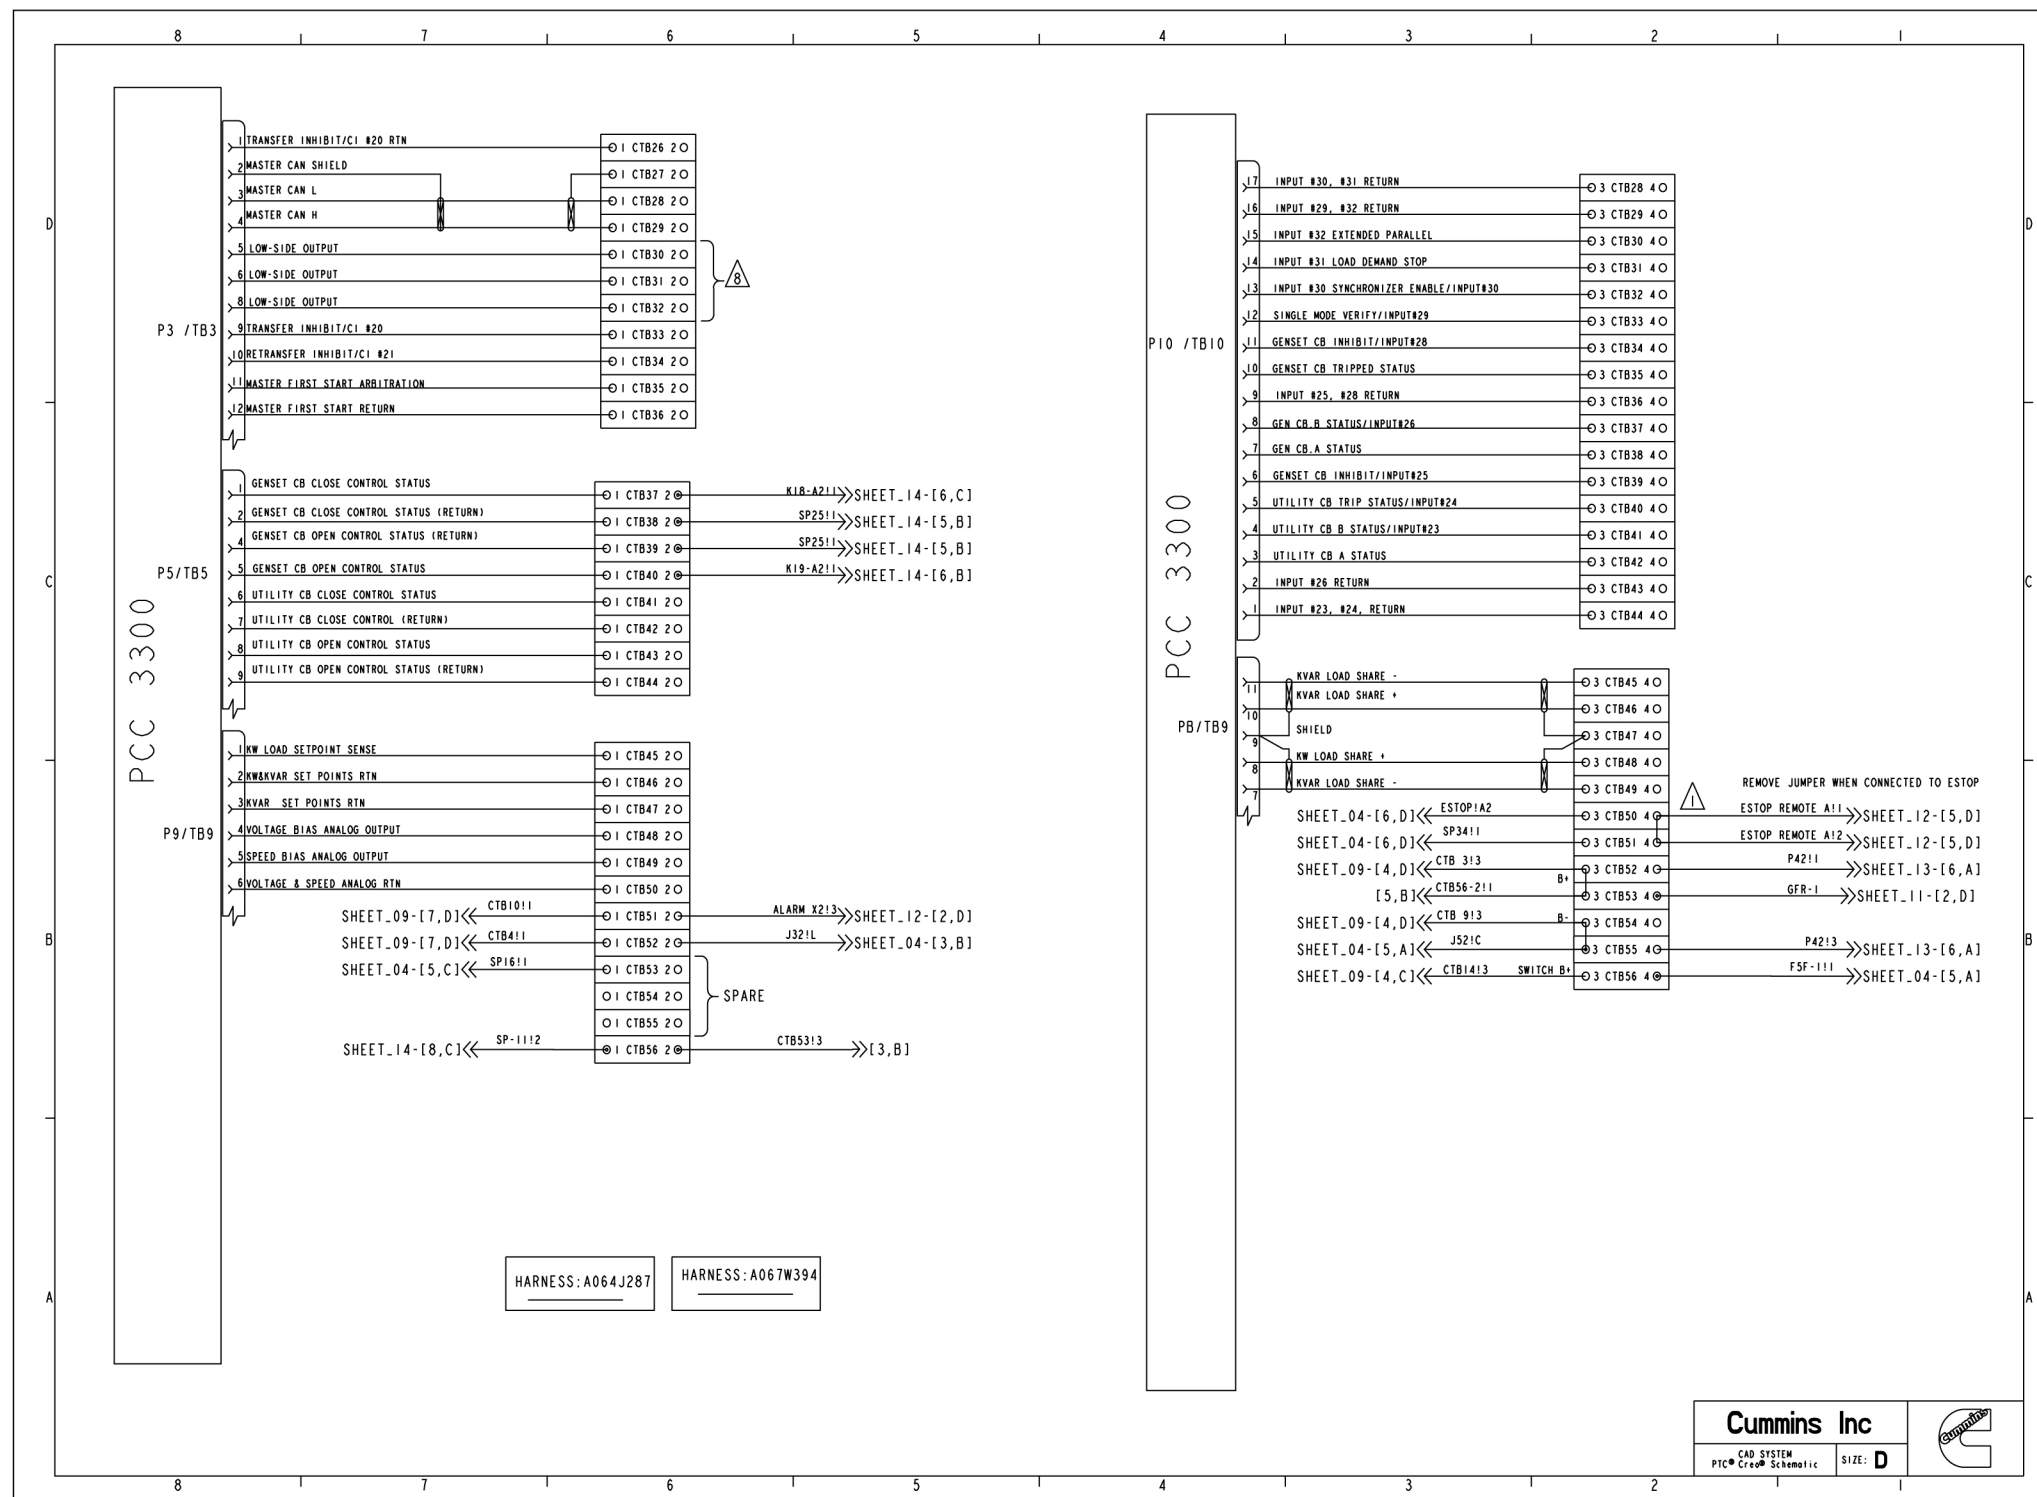

FIGURE 94. WIRING SCHEMATIC (SHEET 10)
- Figure 94. Wiring Schematic (Sheet 10) 398